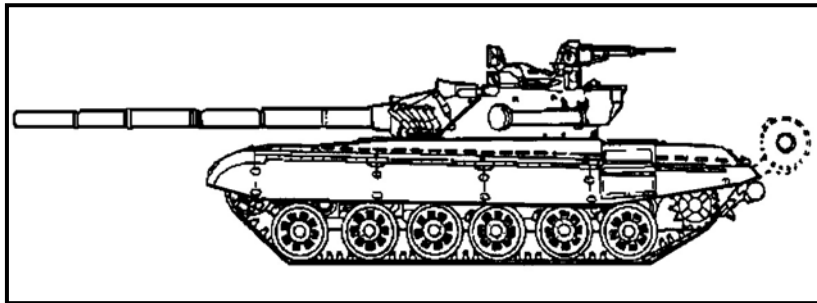

Figure H-3. Polish/Czechoslovakian main battle tank, T-72M1.
(3) **Polish/Czechoslovakian Main Battle Tank, T-72M1** (Figure H-3, page H-4).